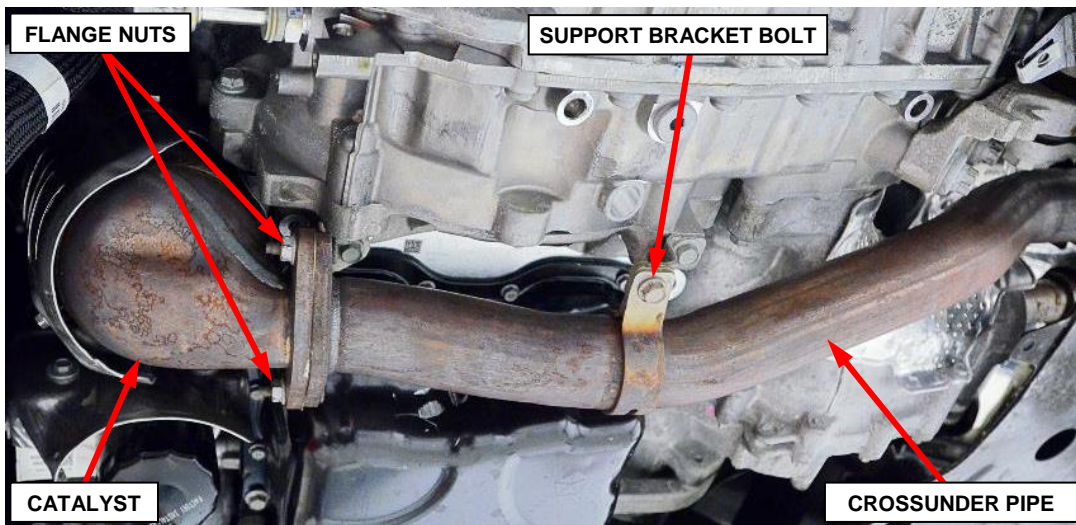

Figure 52 – Catalyst Flange Fasteners and Support Bracket
- a. Remove the and **DISCARD** flange nuts securing the crossunder pipe to the catalyst (Figure 52).
- b. Remove the pipe support bolt (Figure 52).